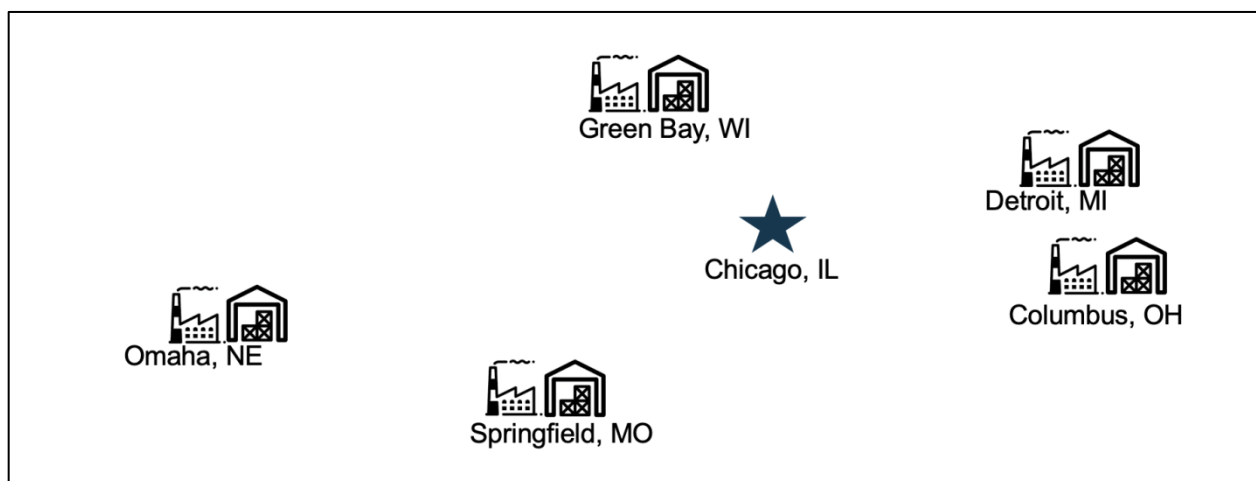

Figure 1: Locations of JB Manufacturing headquarters and manufacturing facilities.
Jelly Bean (JB) Manufacturing is headquartered in Chicago, IL with manufacturing facilities in five locations spread throughout the mid-western region of the United States as shown in Figure 1. These five manufacturing facilities supply both domestic and international orders for jelly beans. JB Manufacturing sells jelly beans in bulk that are of different colors, sizes, and flavors. JB Manufacturing locations operate each year from April 1st to the end of September or early October to fulfill seasonal demand for Halloween.